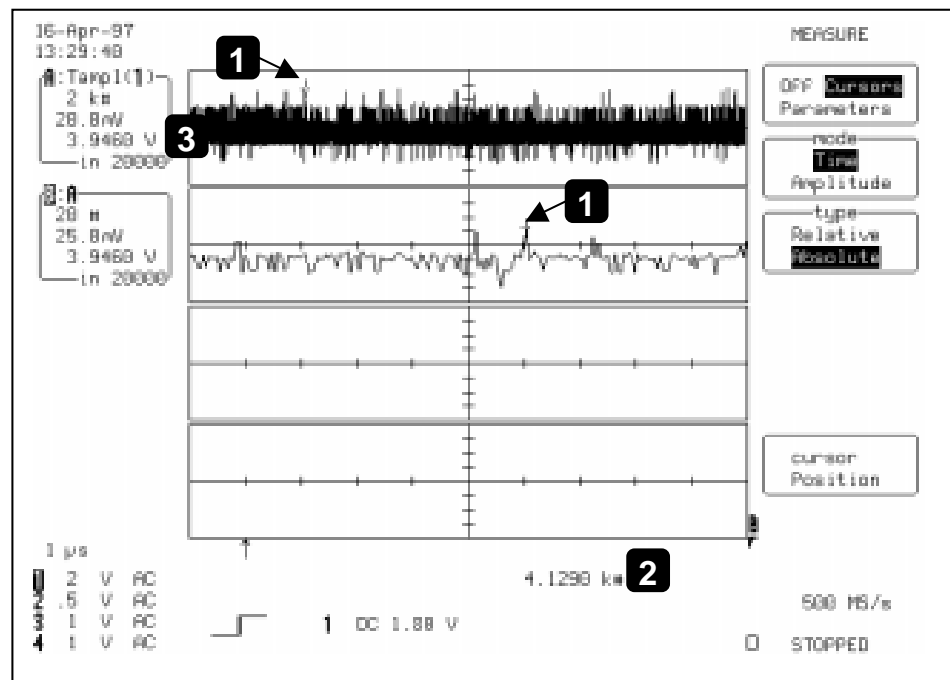

Figure 4.1
Figure 4.1 shows the Time cursors (Annotation ❶) positioned on the selected trend vertex, whose order number (❷) and value (❸) are also shown.